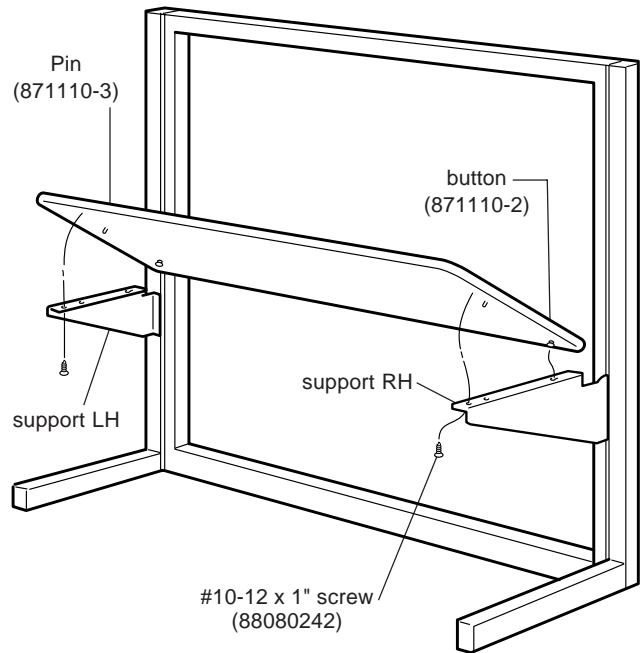

Figure 1
1. Engage right-hand Cantilever Support in right side of panel frame at designated height. Push support down to securely seat in frame. Repeat procedure with left-hand support in left side of frame. Install 18" cantilever for center of surface if required. (Figure 1)
3. Place button at back of surface into large end of teardrop slot in support. Slide top back to engage. Drop pin into front holes of cantilever. (Figure 1)